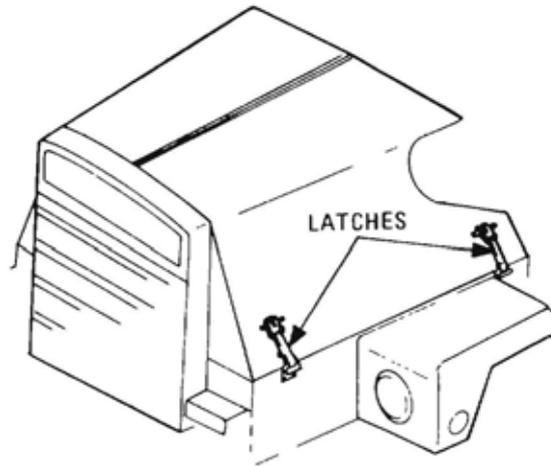

Figure 133 Bonnet Lock Down Latch Location
**186.** The bonnet is made of sheet steel and constructed in two sections. Bracing is bolted to each section to give added strength and prevent the bonnet losing shape. Part of the central hinge is welded and bolted to each section of the bonnet and a third part of the hinge is slid over the other parts, completing the hinge and joining the two sections of the bonnet together (Figure 131). The front end of the hinge is mounted on the radiator top tank and the rear end is mounted on a bracket forward of the cab scuttle, forming a centre support for the bonnet and enabling the bonnet to be opened either or both sides giving access to the engine compartment. A support strut located on the radiator stay brackets on either side of the engine compartment retains the bonnet in the open position (Figure 132) and rubber latches lock the bonnet down when in the closed position (Figure 133).